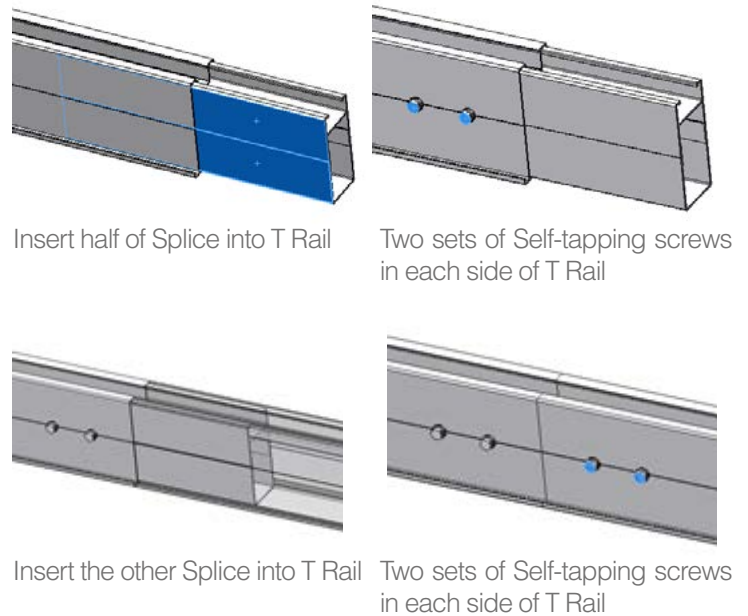

Figure 8
5.2.4 If the T Rail is not long enough, please apply Splice for T Rail to connect two T Rails together. Insert half of Splice into T Rail and fasten with two sets of Self-tapping screws in each side of T Rail, and then insert the other Splice into T Rail and fasten with Self-tapping screws as shown in Figure 8.